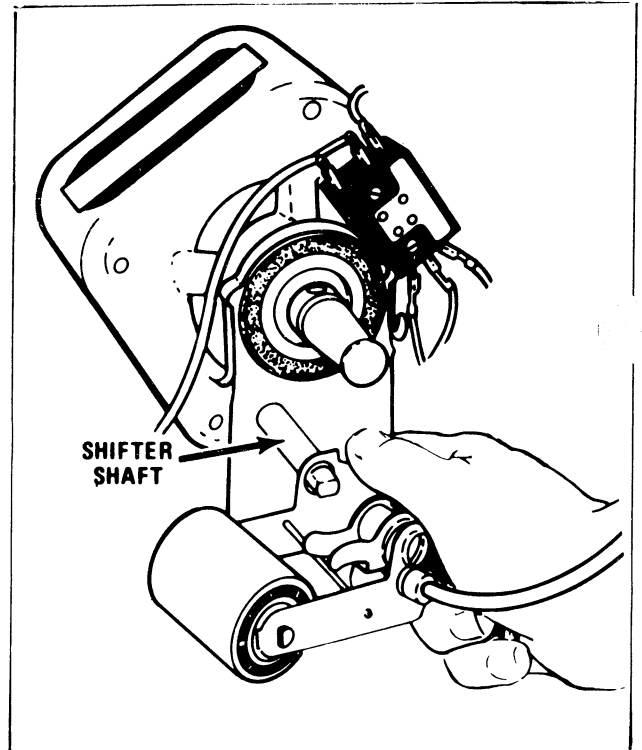

Figure B3
4. The idler and shifter can now be removed from the shifter shaft, *Figure B3*.